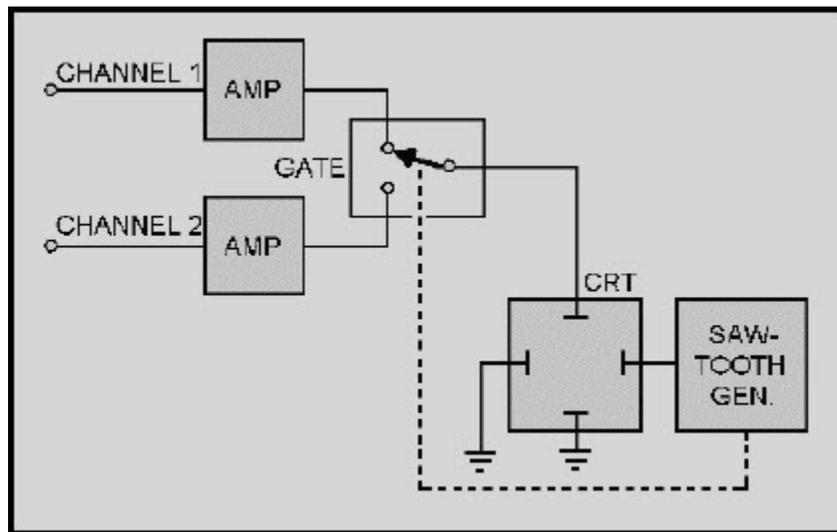
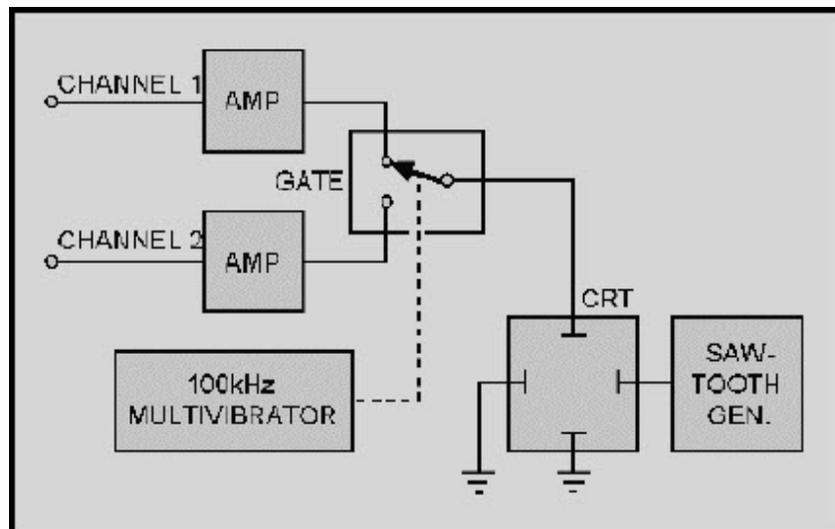

Figure 6-35 ALT (alternate) mode
Figure 6-36 CHOP mode
**ALT** - The ALT (alternate) mode (figure 6-35) of obtaining a dual trace uses the techniques of GATING between sweeps. This control allows the signal applied to channel 1 to be displayed in its entirety; then, channel 2 is displayed in its entirety. This method of display is continued alternately between the two channels. At slow speeds, one trace begins to fade while the other channel is being gated. Consequently, the ALT mode is not used for slow sweep speeds. The CHOP mode, shown in figure 6-36 (explained next), will not produce a satisfactory dual sweep at high speeds. The ALT mode is deficient at low speeds. Therefore, both are used on dual-trace oscilloscopes to complement each other and give the scope a more dynamic range of operation.